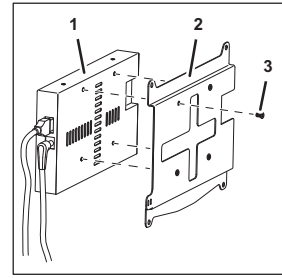

Fig. 37
7. Remove the retaining plate (Fig. 37/3) with display from the taxi cab hood (Fig. 37/4)
8. Remove the fastening bolts (Fig. 37/3) of the display (Fig. 37/1).
9. Remove the retaining plate (Fig. 37/2) from the display (Fig. 37/1).
22. Position the retaining plate (Fig. 37/2) on the new display (Fig. 37/1).
23. Attach the display (Fig. 37/1) using the fastening bolts (Fig. 37/3).